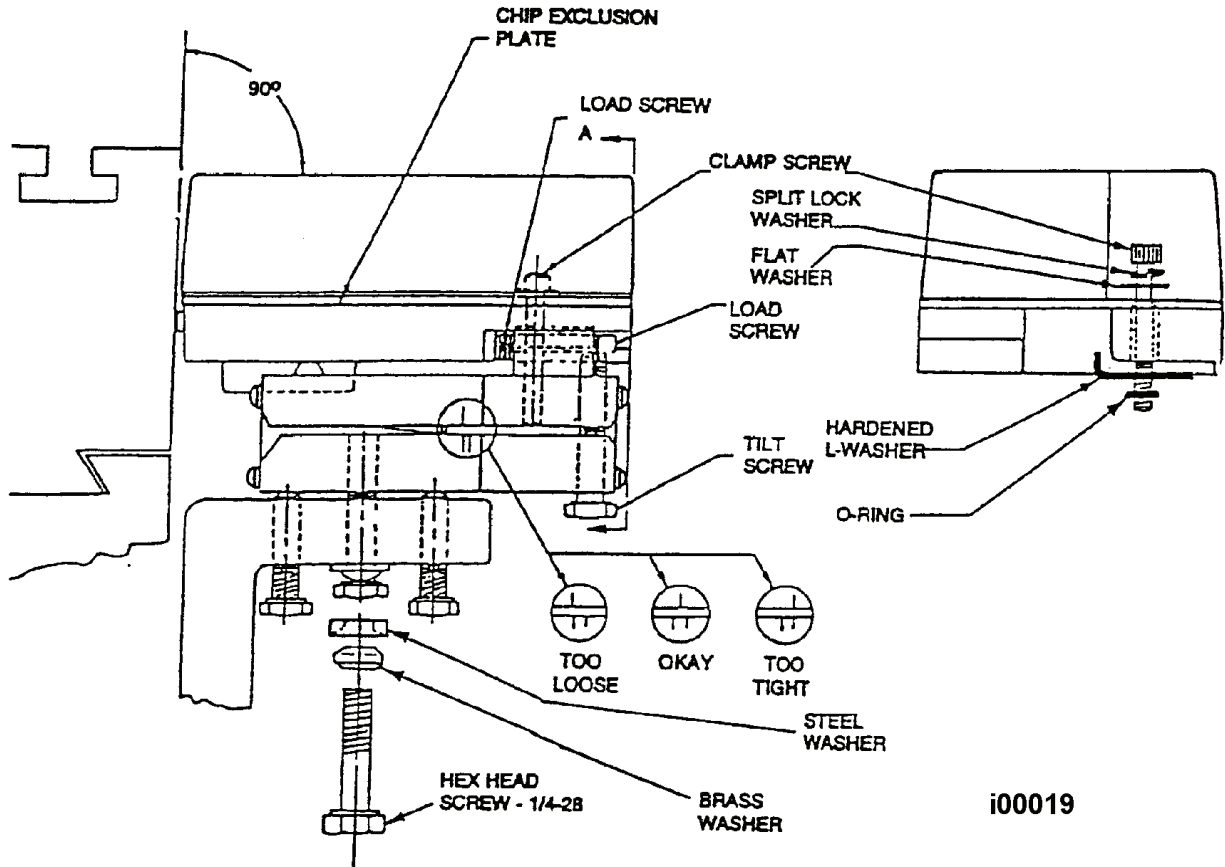

Figure 2-21
Step 5: See figure 2-21. Route the sensor cable to the left and around the rear of the machine. Plug it into the computer box.